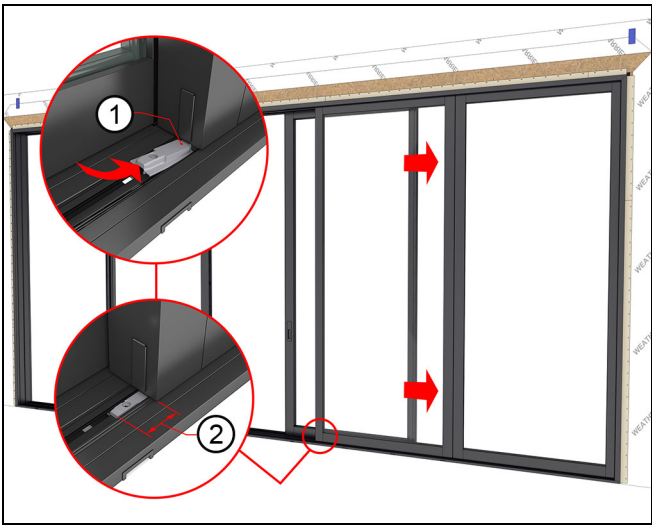

Figure 138
10. Snap the lower stationary bracket onto sill, then slide underneath the (C) stationary panel until fully seated. The bracket should stick out approximately 2 1/4" (57) from panel when fully seated. Do not fasten the bracket until all the panels are installed and adjusted. See Figure 138.